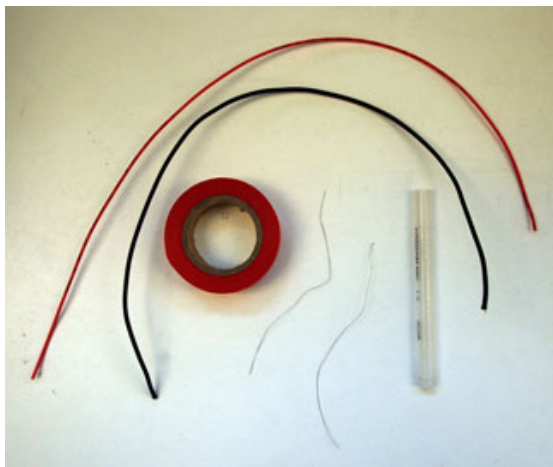

Figure 1. Supplies for Part 1, to fabricate the probe.
1. Direct groups to collect the materials to complete Part 1, which are listed on page 3 of the handout. The supplies for Part 1 are shown in Figure 1.